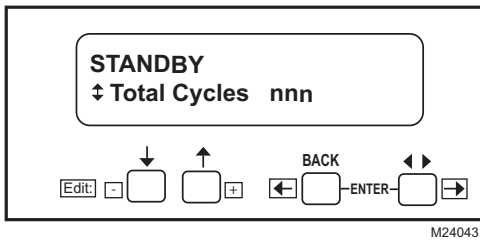

Fig. 13. SAVE function.
4. SAVE function, see Fig. 13, 14, and 15.
- b. Press the down-up arrows until the desired second line is displayed. Press the ENTER function. (See Fig. 13.)